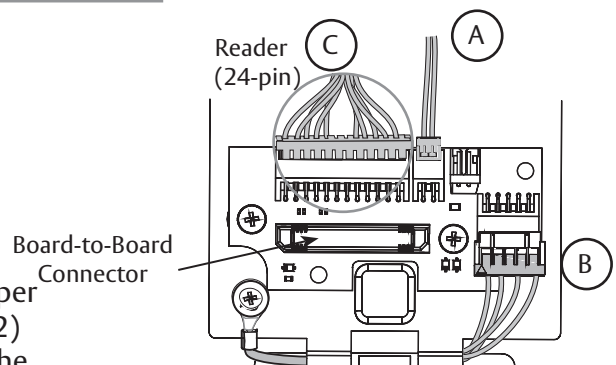

Fig. 13A
Secure the following connectors (Fig. 13A, B):
- Secure the mounting assembly while ensuring proper alignment of outside reader and fully tighten the (2) through-bolts on the inside of the door to secure the reader and plate to the door
C. Secure the 24-pin card reader connector (Fig. 13A, B)